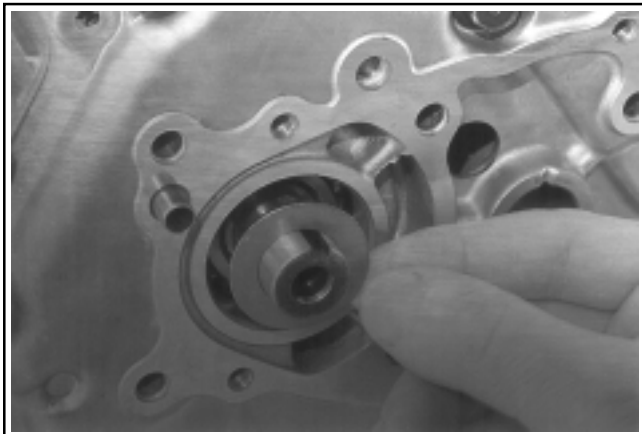

Figure 11-27. CS4, CS6. Installing Thrust Washer.
4. **CS4, CS6:** Reinstall the washer (behind crankshaft key) and crankshaft key. Install the chain around both the crankshaft sprocket and the output shaft/sprocket assembly, then slide the complete assembly into place. Reinstall the wave washer onto the output shaft. See Figures 11-27, 11-28, and 11-29.